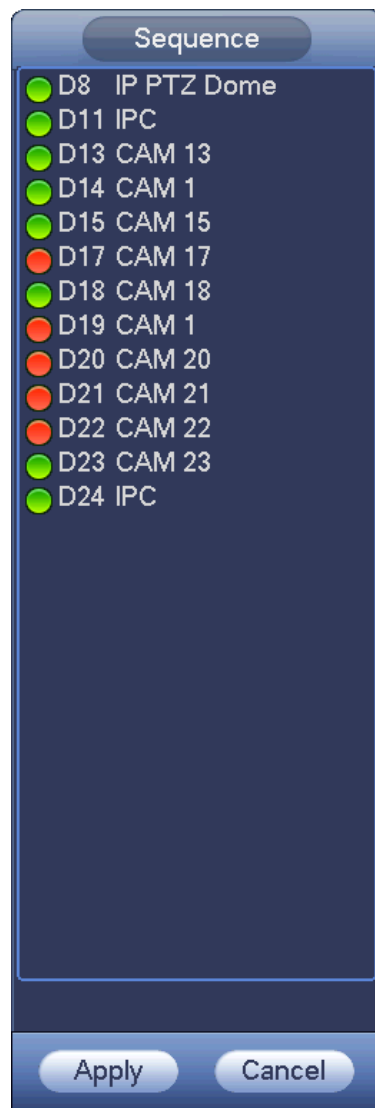

Figure 4-68
Step 1 On the preview interface, right click mouse and then click Edit view. Enter edit view interface. See Figure 4-68.
- In case the channel amount has exceeded the device max split amount, the edit view interface can display the max screen number amount and current screen number. In Figure 4-68, click  or , switch the video from other channel.